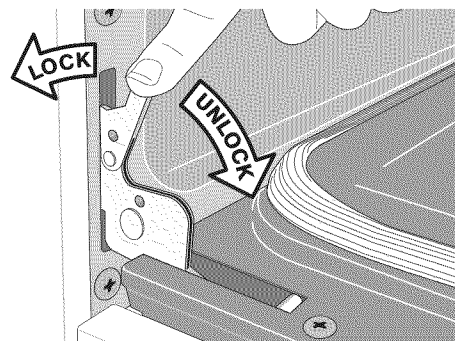

Figure 34: Door hinge locks
2. Pull the door hinge locks on both left and right door hinges down from the oven frame completely toward the oven door (See Figure 34). A tool such as a small flat-blade screwdriver may be required.
4. Push the door hinge locks up toward and into the oven frame on both left and right oven door hinges to the locked position (Figure 34).